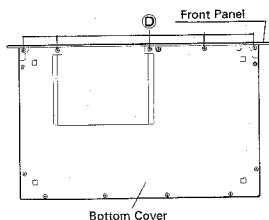

Fig. 2
- Remove the 6 screws **D** (3 × 8 bind head screw) on the front edge of the bottom cover, and remove the front panel. (Refer to Fig. 2)